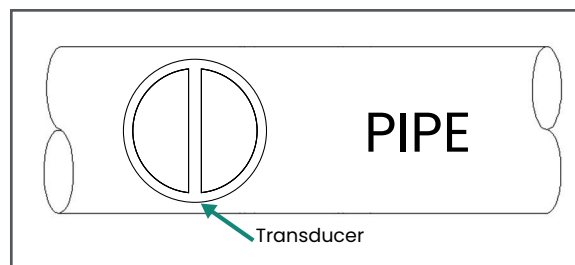

Figure 171: Proper Alignment of Transducers for Cylindrical Surfaces
B. Transducer Positioning/Alignment – For proper sound coupling the transducer must be pressed firmly against the test surface. On small diameter cylindrical surfaces such as pipes, hold the transducer so that the sound barrier material visible on the probe face is aligned perpendicular to the center axis of the pipe. See *Figure 171*.